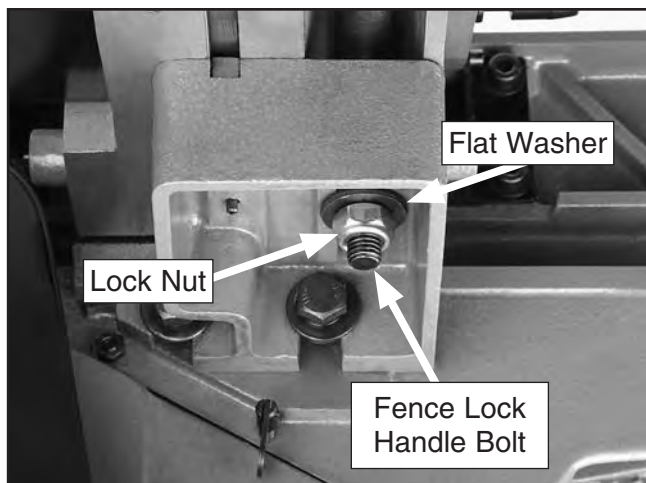
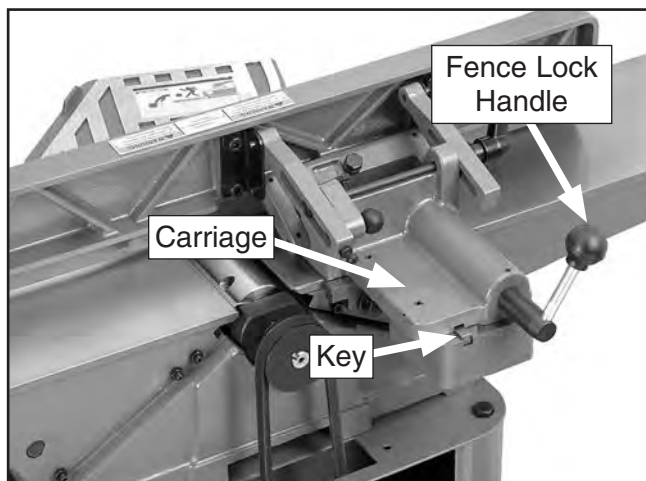

Figure 23. Fence lock nut and washer.
Figure 24. Fence mounted to jointer.
23. Remove the lock nut and flat washer (**Figure 23**) from the fence lock handle bolt, place the fence on the jointer, and insert the bolt through the slot in the carriage, making sure the carriage fits over the key (see **Figure 24**).